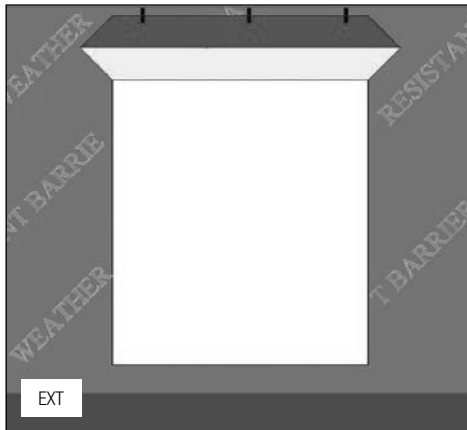

FIG. 6
- G) Fold side flaps into rough opening and secure to inside wall. Cut off excess flap if desired. (Fig. 6)